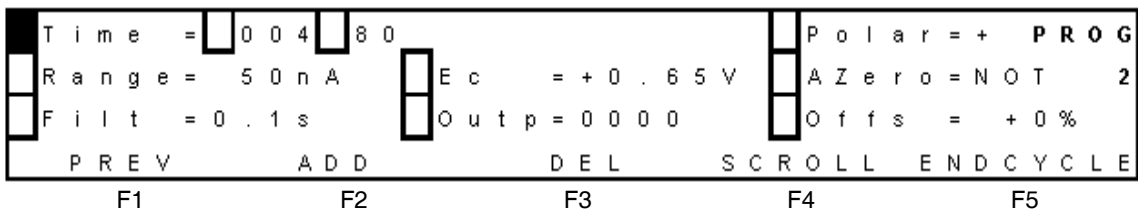

Figure 3-32 Prog Screen After Adding Line 2
g. Select **F2 ADD**. The Prog screen appears (Figure 3-32).